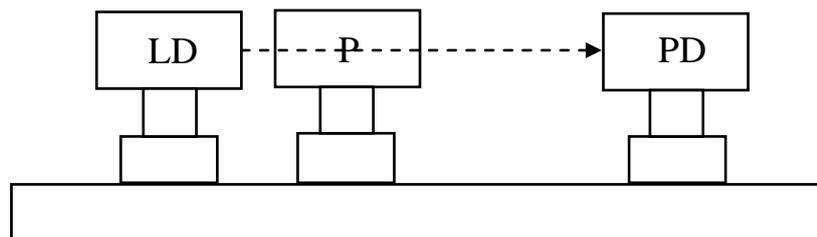

Fig. 6 Alignment of the polarizer (P : polarizer).
4. **To prepare for the part B experiment:** Mount a polarizer on the optical bench close to the laser diode as shown in Fig. 6. Make sure the laser beam passing through the center portion of the polarizer. Adjust the polarizer so that the incident laser beam is perpendicular to the plane of the polarizer. (Hint: You can insert a piece of partially transparent paper as a test screen to check if the incident and reflected light spots coincide with each other.)